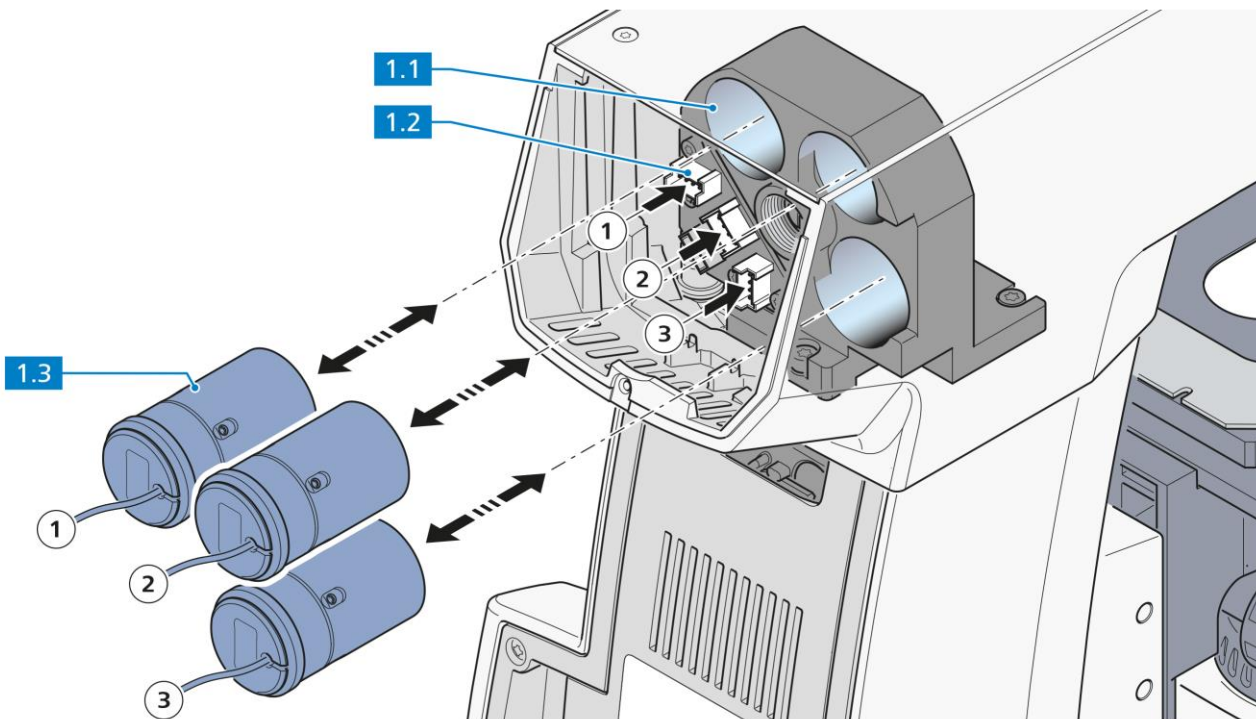

Fig. 3-26 Changing the LED modules
- When changing the modules, remove the module plugs from the connectors (Fig. 3-26/1.2) of the stand.
- Pull the old LED modules (Fig. 3-26/1.3) out of the holding positions of the LED tube (Fig. 3-26/1.1).
- Insert the new LED modules into the LED tube up to the stop. Ensure that the modules are inserted in the right holding positions (Fig. 3-26/①②③).
|  | <p>NOTE</p> <p>The LED positions ①, ② and ③ in Fig. 3-26 correspond to the UV, B and G labels on the right side of the microscope (see section 2.4.3, Fig. 2-3/4).</p> |
- Plug the module plugs into the connectors (Fig. 3-26/1.2) of the stand. Ensure that the plugs are connected to the right connectors (Fig. 3-26/①②③).
- Screw the module holder (Fig. 3-26/1) into the LED tube to fix the modules in place.